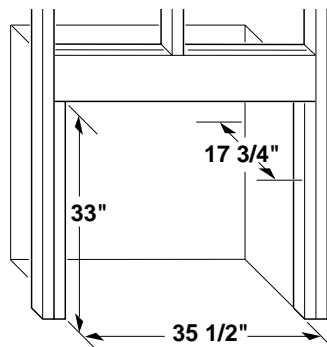

Figure 25 - Rough Opening for Installing in Wall
1. Frame in rough opening. Use dimensions shown in Figure 25 for the rough opening.